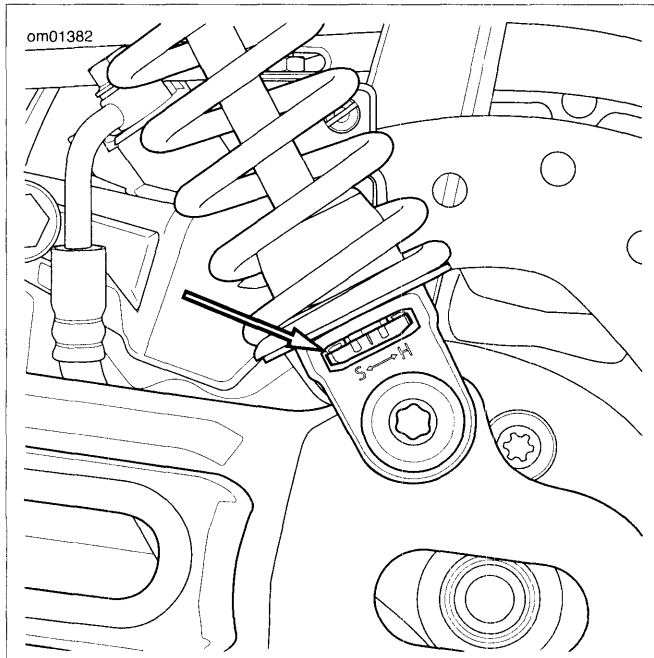

Figure 1-78. Shock Absorber Rebound Damping Adjuster: XR 1200X
1. See Figure 1-78. Turn the rebound adjuster in the direction of the embossed H (hard) until it stops. This is the maximum rebound damping setting.